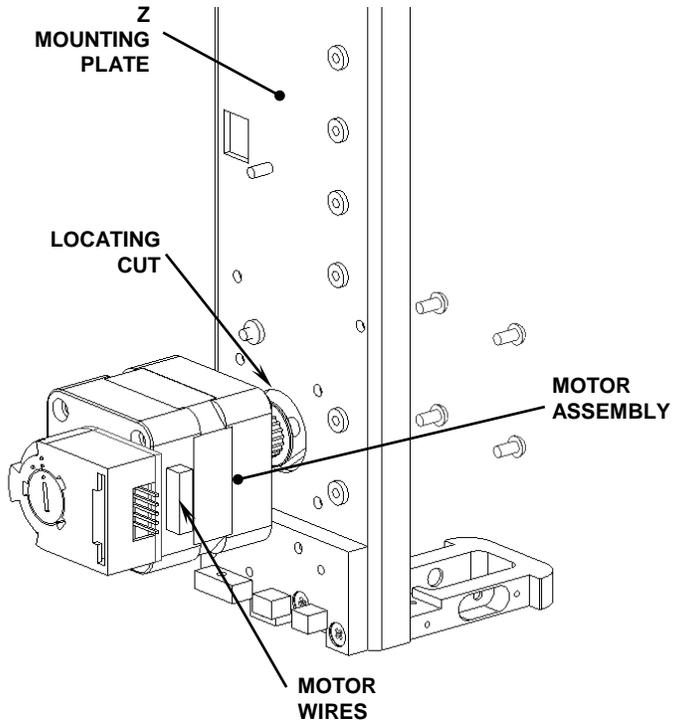

Figure 7-22: Attachment of Motor
1. Remove the four screws that attach the motor to the Z-mounting Plate (Figure 7-22).